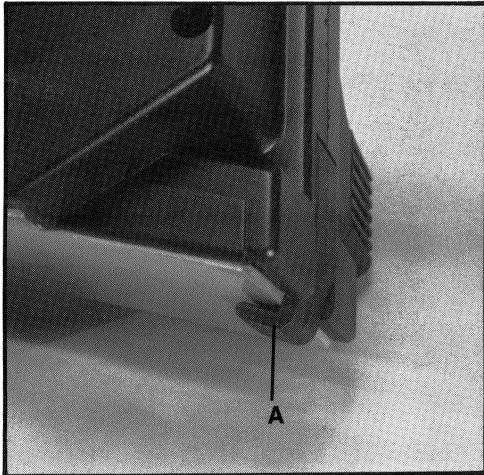

Fig. 5
The retractable tool rest (A) Fig. 5, allows the plane to be set down, when not in use, without danger of cutters hitting the surface. When the plane is in use, the tool rest retracts as the plane slides across the work.